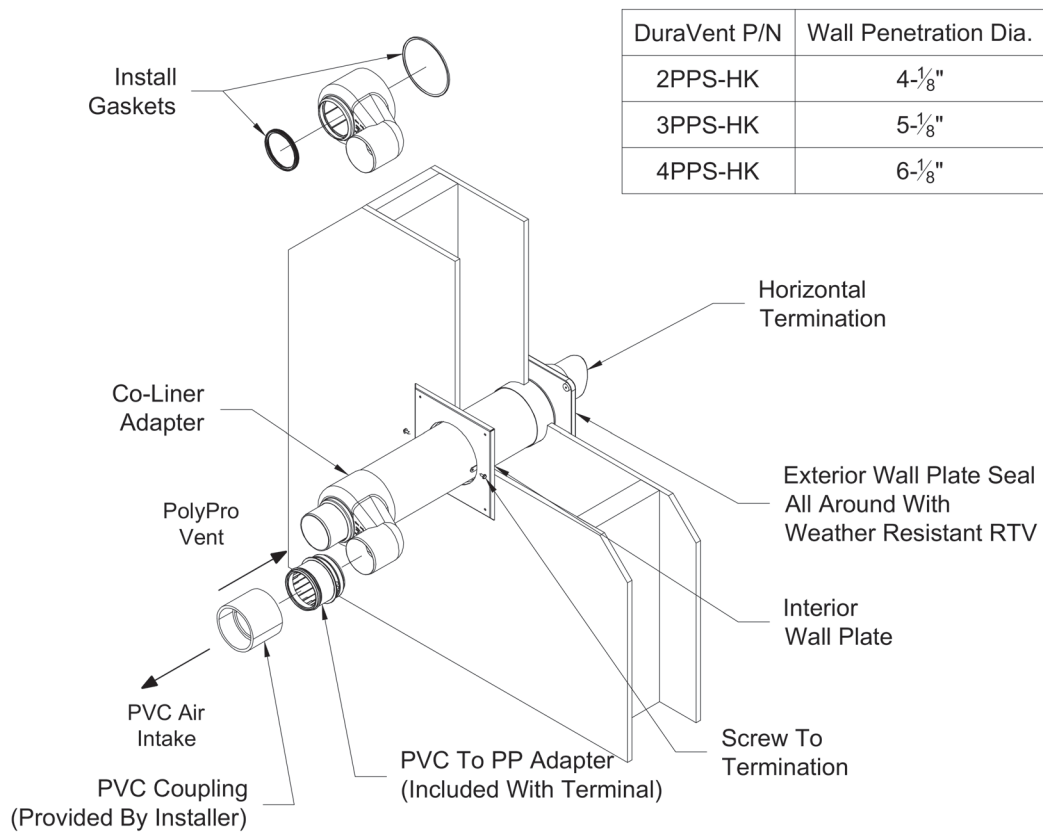

Figure 7.38: Installation of DuraVent PolyPro Concentric Vent Terminal Through Sidewall
6. Installation of DuraVent PolyPro Horizontal Concentric Vent Terminal (Terminal Option D) - Install PolyPro Horizontal Concentric Termination Kit #3PPS-HK or #4PPS-HK (Figure 7.38) as follows: